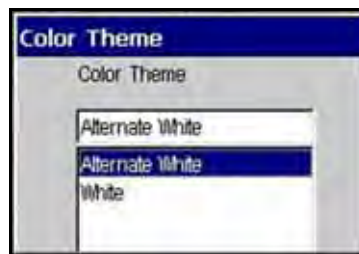

Figure 9-12 Sample Color Theme dialog box
2. Press **Y/a** to open the dropdown list (Figure 9-12).